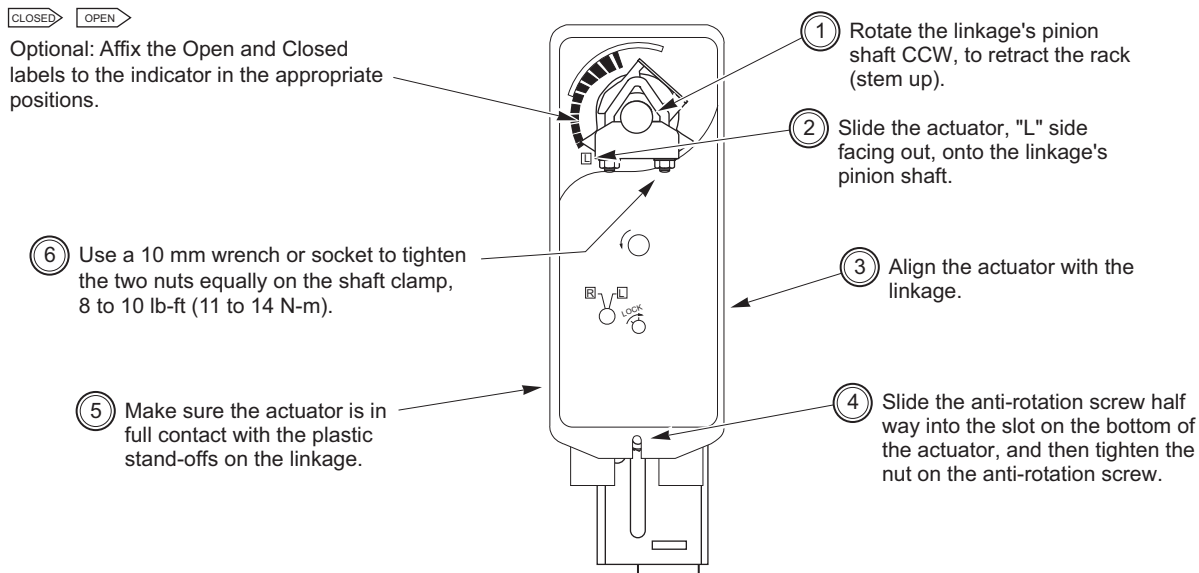

Figure-13 Mounting MX41-707X or MX41-715X and Setting up Actuator/Linkage/Valve Assembly.
- a. Install the actuator onto the linkage and valve, and set up the assembly, according to Figure-13.